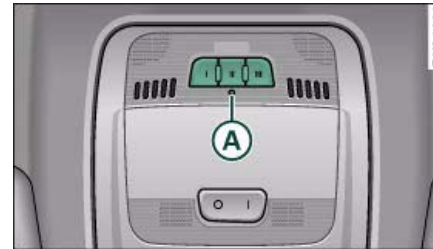

Fig. 197 Operating unit in headliner
⇒ *page 179, fig. 197* until the indicator diode **(A)**
⇒ *page 179, fig. 197* begins to flash after about 20 seconds. This procedure will delete the standard factory settings and does **not** need to be repeated when programming the other buttons.
- Watch HomeLink diode **(A)** ⇒ *page 179, fig. 197*. If the diode starts flashing rapidly and turns into a constant light after about 2 seconds, this indicates that the device you wish to operate (e.g. a garage door opener) is equipped with a rolling code.
- Press the programmed HomeLink button ⇒ *page 179, fig. 197*. The device assigned to that button (e.g. garage door) will be activated.
The HomeLink indicator diode ⇒ *page 179, fig. 197* will light up when you press the button. ■
- Press and hold down the two outer buttons until the indicator diode starts to flash ⇒ *page 179, fig. 197*.
- Press and hold down the selected button until the indicator diode ⇒ *page 179*, fig. 197 starts flashing slowly.